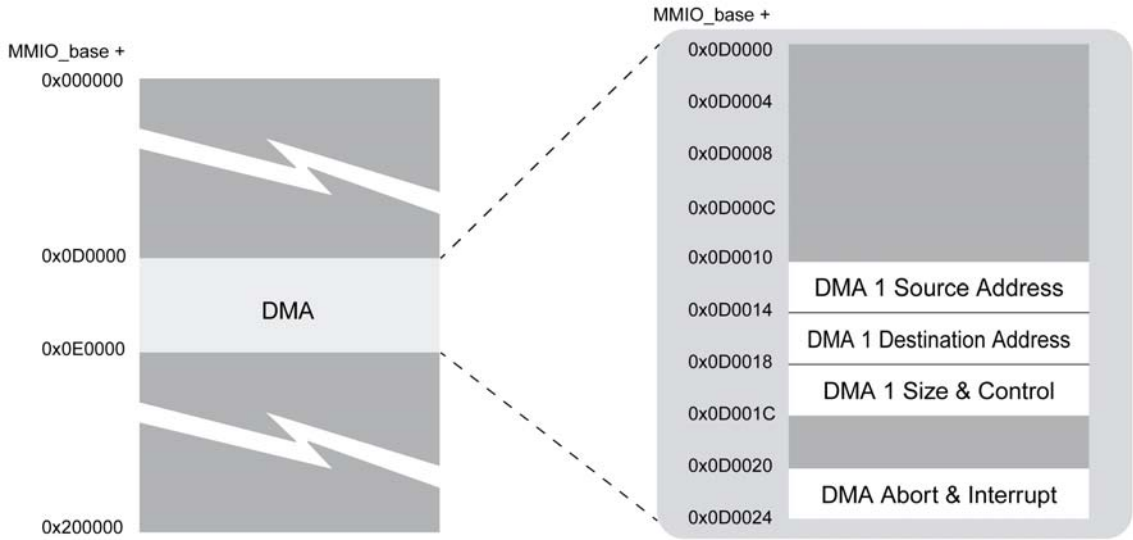

Figure 33: DMA Register Space
- DMA1 – Moves data between system memory and local memory (see Figure 33)